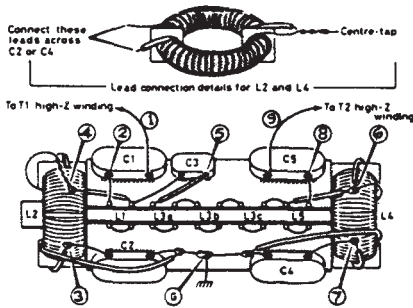
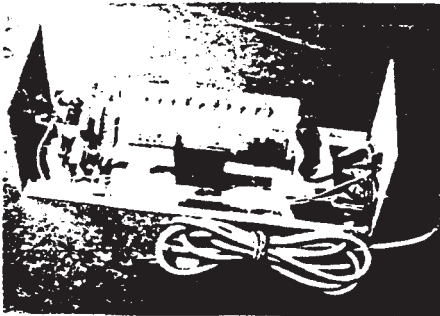

Figure 2. Pictorial diagram showing L2 and L4 lead connection and wiring of inductor stack.
Figure 3. The assembled filter is shown installed in a CR-800 aluminum box. The thru/bypass switch and input/output transformers are at the left end of the box.
The original problem (300ohm across 50ohm) required an output power of about 1.8mW, so I assumed 2mW to err on the safe side. In order to avoid the need for an output link winding, a pi-network output was adopted in the final circuit. The performance did not appear to be affected by this move. Relevant circuit details are shown in figure 2.
Figure 2 is a pictorial diagram showing the 44-mH lead connection and the connections between the capacitor leads, the 88-mH stack terminals and the 44-mH inductor leads. Figure 3 is a photograph of the filter installed in an aluminum box. Before beginning construction, obtain one 88-mH five-inductor stack with a mounting clip and two 44-mH inductors, and then follow steps 1 to 5.
1. Remove one turn from each of the two windings of one 44-mH inductor to get 43.5 mH (total turns removed is two). Carefully scrape off the film insulation and connect the start lead (with sleeve) of one winding to the finish lead (no sleeve) of the adjacent winding to make the center tap as shown in Figure 2. Do the same for the second 44-mH inductor.
3. Position the 43.5-mH inductors so their leads can be easily connected to the rest of the circuit. Solder the cap leads to the stack terminals as shown in Fig. 2.
4. Obtain a suitable box and make holes for the inductor mounting clip, the DPDT switch, and the phone jack and phone cord. Install transformers T1 and T2 and the inductor stack with capacitors in the box. Fasten the transformers (with leads pointing up) to the bottom of the box with silicone rubber sealer. Secure the stack to the bottom of the box with a 1-3/8-inch component mounting clip and two 6-32 X 5/16-inch screws. Instead of the 8 X 3 X 2-3/4-inch aluminum box shown in Fig. 3 (MOUSER Stock No. 537-CR-880, \$7.25), a small cardboard box may be used to minimize cost.